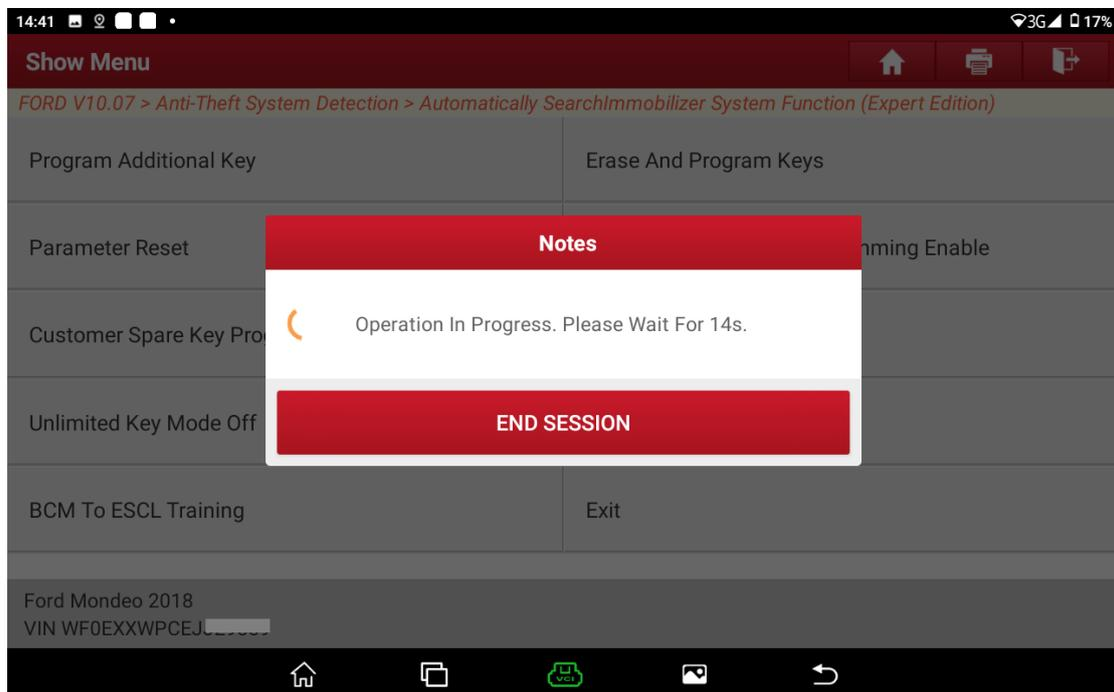

Figure A13
11. Prompt to wait for 15s. See Figure A13.